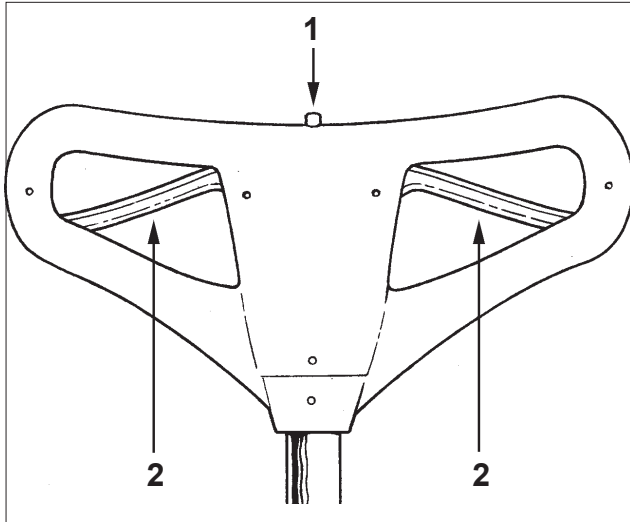

Figure 10
The switch to start and stop the machine is activated by the interlock switch (1) and the levers (2) under the handle grips. See figure 10.
3. Push the interlock switch (1), and apply pressure to the levers (2). See figure 10.